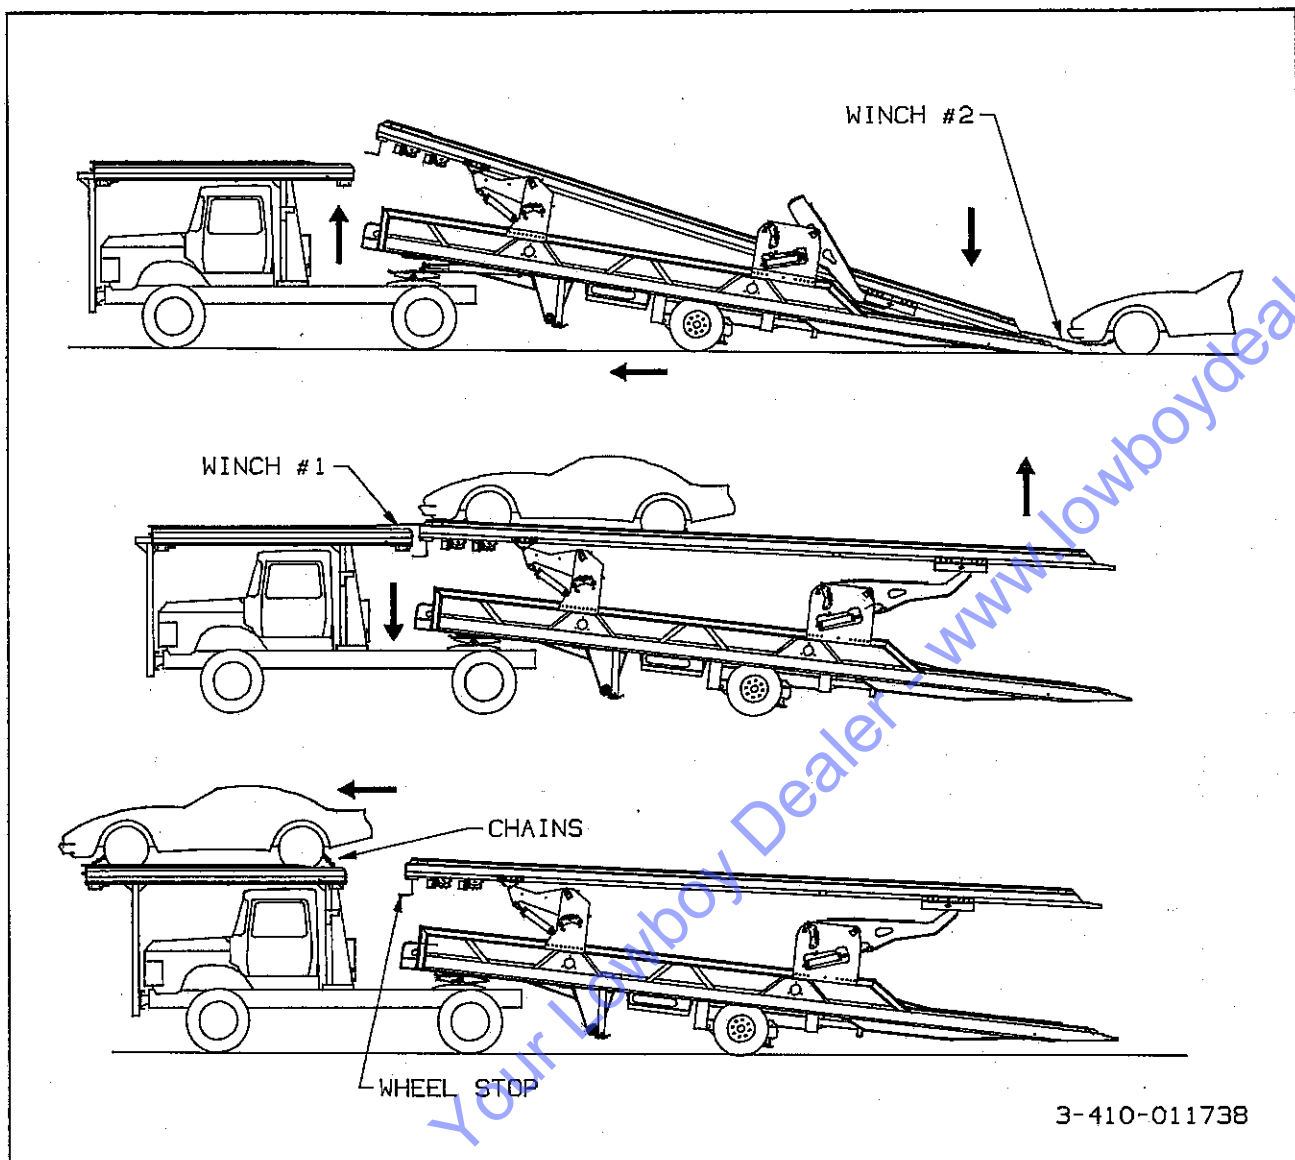

Figure 3-8 Loading the Over-the-Cab Deck
- e. Unlock and lower the rear arm until the back edge of the upper deck touches the lower deck.. (See Figure 3-8.)
- f. Make sure the trailer axles are all the way forward. Tilt the trailer with the **TRAILER TILT** control, until the approach plate of the lower deck touches the ground. (See Figure 3-8.)